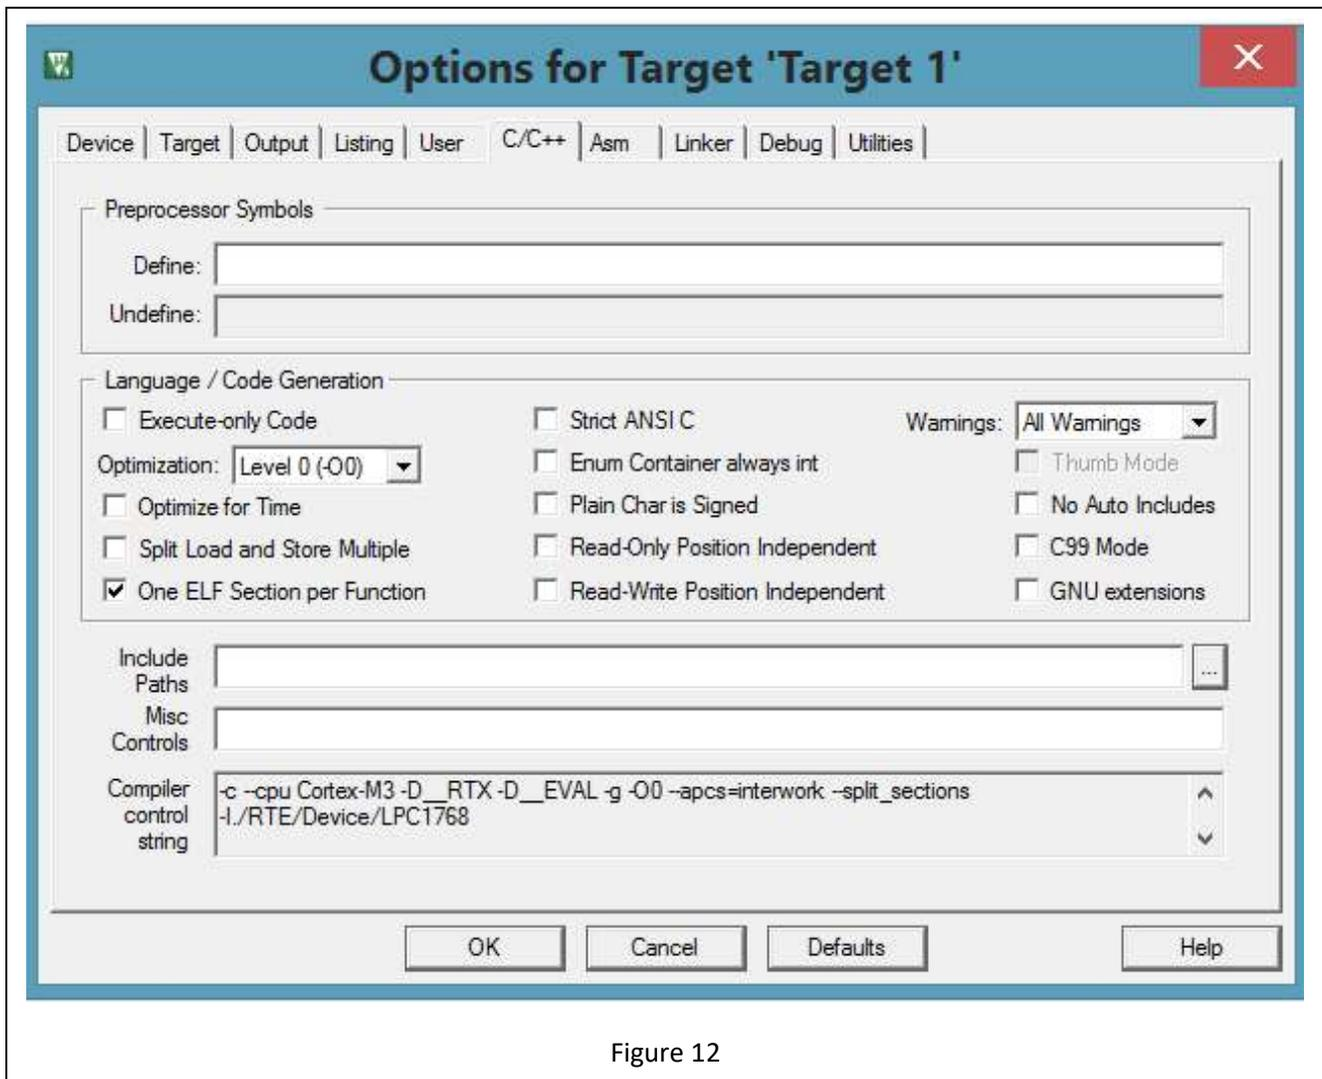

Figure 12
- Select C/C++ and a window similar to Figure 12 will appear.